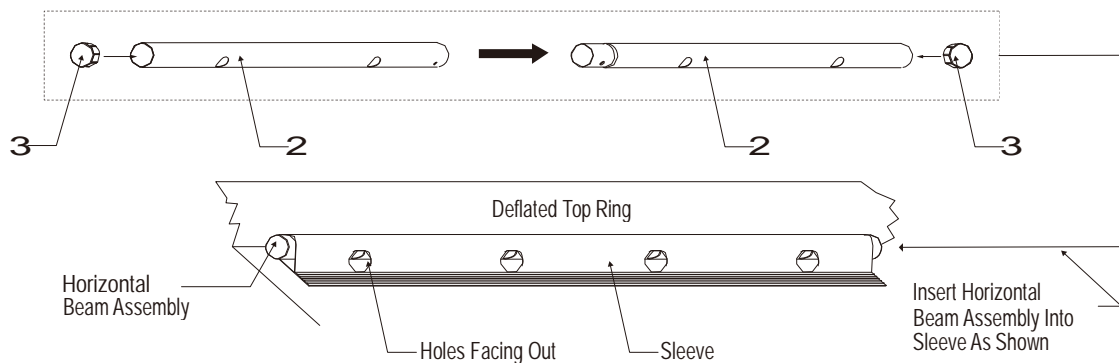

FIG. 2
5. Now, take two Horizontal Beams (different parts), then slide them together, depress the button as you insert them together and slightly rotate them until the button aligns with the hole and pops up. Now install the plastic Beam Plugs in both ends lightly tapping them into place. Now slide this Horizontal Beam assembly through the sleeve stitched along the long sides of the pool, under the ring on both sides. FIG. 2. Make certain that the holes for the U-Shape Pipe frame are facing out.